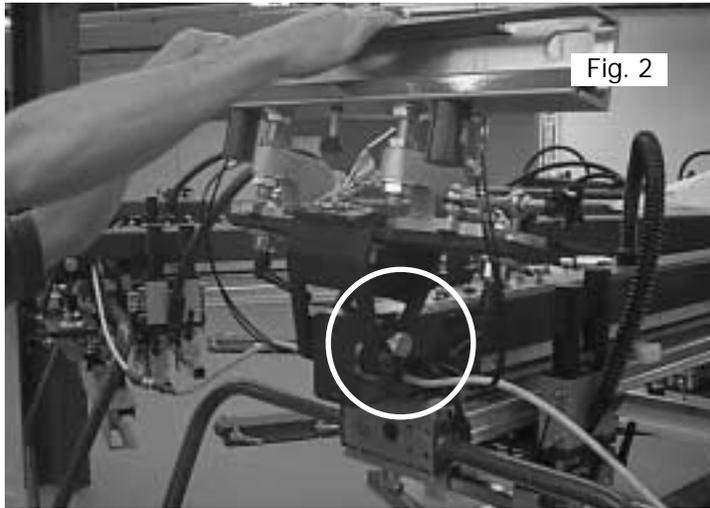

Fig. 2
2. After loosening the latch clamp as described in number 1 above, lift the entire front screen frame holder assembly up into the fully raised, vertical position. The flip-up front screen frame holder assembly should lock into the fully raised position. (See Fig. 2 top left next page) In the event the flip-up front screen frame holder assembly does not lock securely into position, examine the lock assembly for proper operation or contact our Equipment Service Department at 1 (800) 483-8765 for further assistance.